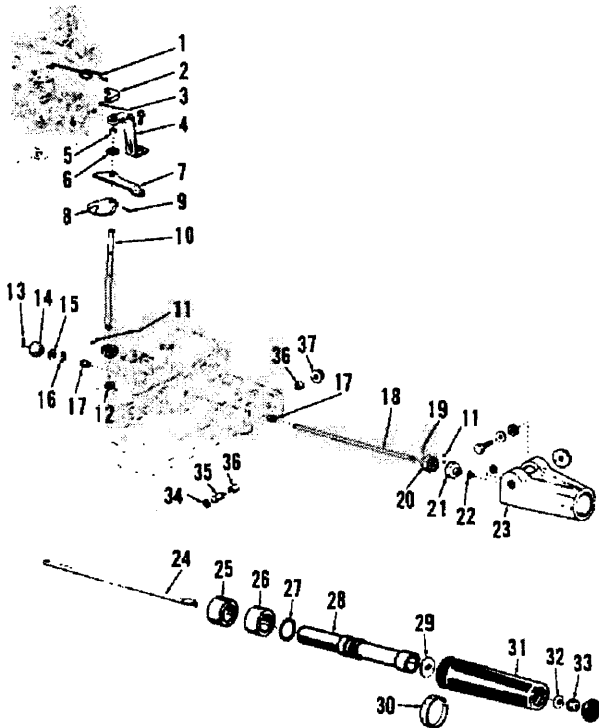

Fig. E3-12—View of throttle control linkage.
If control linkage has been disassembled, note that word "START" on twist grip decal should be aligned with arrow on bracket (23—Fig. E3-12) with motor in Neutral and grip turned counterclockwise as far as it will go. Linkage should be set as described to install a new decal (30).